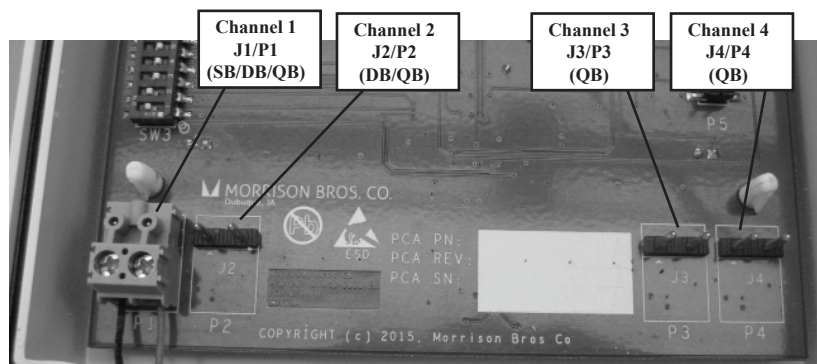

Figure 3 Plug the Channel Input Connector(s) onto the Channel Input Pins of the Alarm Circuit Board (918QB shown)
- b. Verify that the wires are securely held in the connector by gently tugging on them. Plug the connector onto the Channel Input pins of the Alarm Circuit Board (see Figure 3).